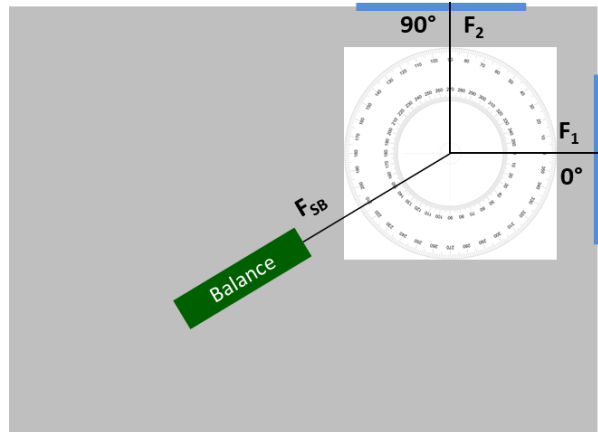

Fig. 14: Align the printed protractor under the threads so that the center is at the intersection of the threads, F_1 at exactly 0° , and F_2 at exactly 90° .
7. Rotate the protractor until F_1 lines up at 0° and F_2 lines up at 90° (see Fig. 14). If the thread is slightly off from the desired angle, slide it over so that it crosses exactly at 0° or 90° .